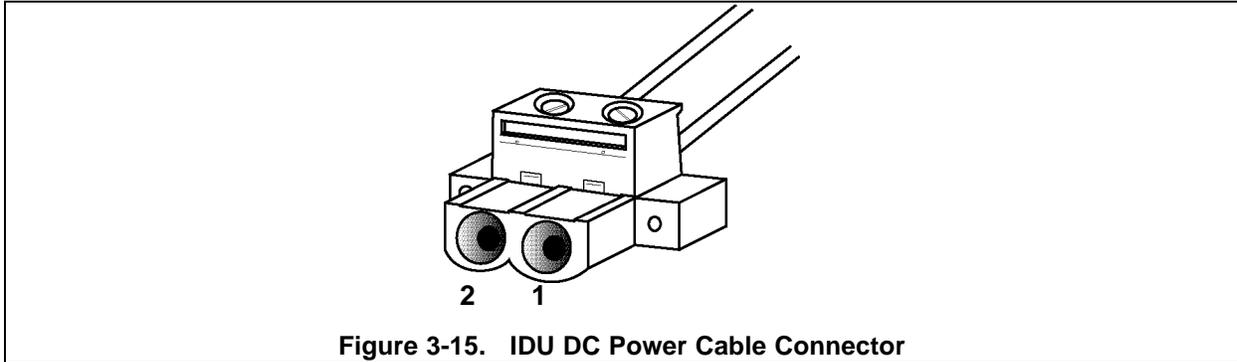

Figure 3-15. IDU DC Power Cable Connector
1. To connect to the IDU DC power connector (located on the IDU rear panel), an IDU power cable is required. A mating power cable connector (Phoenix Contact P/N 17 86 83 1) is provided with the CarrierWave IDU for construction of this cable. This connector has screw clamp terminals that accommodate 24 AWG to 12 AWG wire. The recommended wire size for construction of power cables under 10 feet in length, supplying –48 V dc, is 18 AWG. The opposite end of the IDU power cable should have a termination appropriate for the power supply being used. The IDU power cable should be of sufficient length to avoid tension in the cable and provide a service loop for connection, but not be of excessive length. Stranded wire should be used over a solid conductor to reduce tension on the IDU DC Power connector. Using the supplied power cable connector, pin 2 (labeled **-V**) should be connected to the power supply terminal supplying –48 V dc, while pin 1 (labeled **RET**) should be connected to the power supply return. Refer to Figure 3-15. Note that pin 1 (**RET**) of the IDU DC Power connector is connected to the IDU chassis ground internal to the IDU. Use of a power supply with an inappropriate ground reference may cause damage to the IDU and / or the supply.
2. Connect the IDU power cable to the –48 V dc power supply, and place the voltmeter probes on the unconnected IDU end of the power cable, with the positive voltmeter probe on pin 2 (**-V**) of the cable connector and the negative probe on pin 1(**RET**). The connector screw terminal screw heads may be used as convenient monitor points. Refer to Figure 3-15.
6. Plug the IDU power cable into the IDU rear panel DC Power connector (**DC Input**). Place the voltmeter probes on the cable connector screw terminal screw heads as per step 2 above. Refer to Figure 3-15. Note that the CarrierWave Digital Radio IDU does not have a power on/off switch. When DC power is connected, the digital radio powers up and is operational. There can be up to 200 mW of RF power present at the antenna port. The antenna should be directed safely when power is applied.